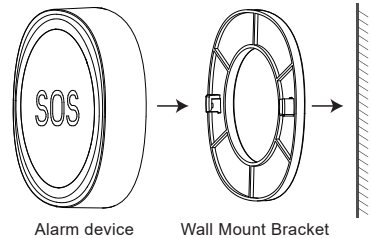

figure 2
1. Select a suitable area to install it with 3M adhesive wall stickers, and use it immediately after sticking (as shown in Figure 2).